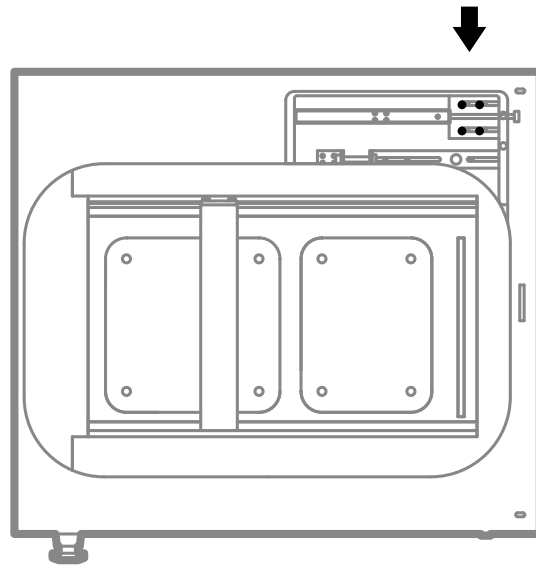

Fig. 13.80 Location of the four nuts of the tensioning mechanism.
18. Now you have access to the tensioning mechanism. To tension the belt, first loosen the four marked nuts, using a 7 [mm] socket screwdriver (fig. 13.80).